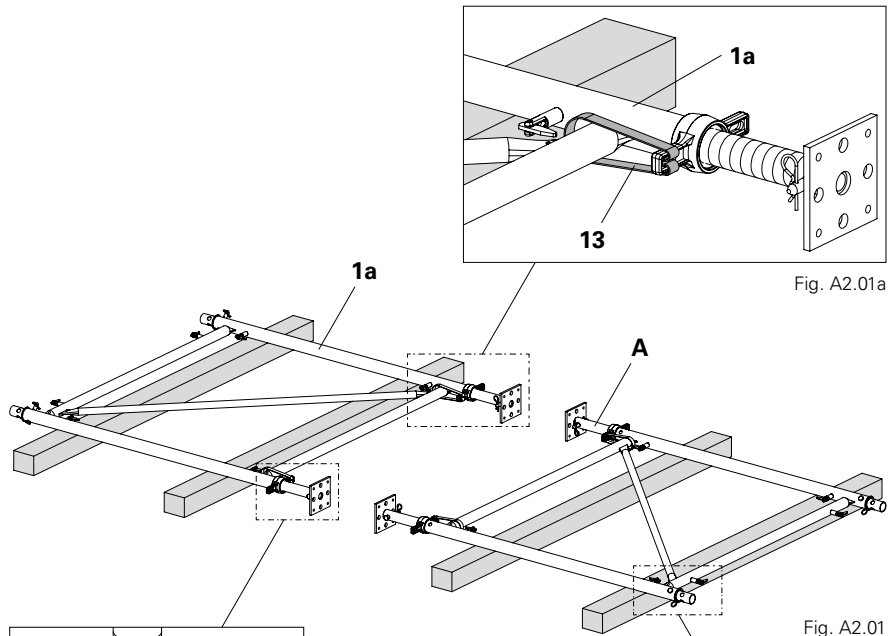

Fig. A2.01a
3. Insert 4x base spindles (A) into the frame tubes from below.
4. Secure the base spindles (A) on the Frame PD 8 R 150 (1a) with Safety Strap for PD 8 Table (13). (Fig. A2.01a)